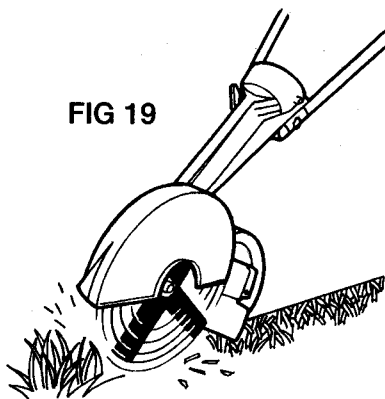

FIG 19
7. As cutting action begins, move the lawn edger forward so that the blade can cut the edge as you move forward (Fig. 19).